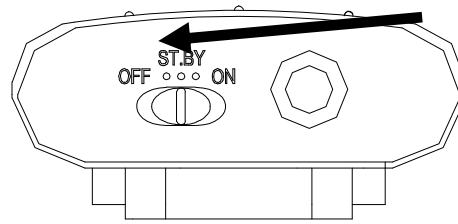

Figure 5.2
- 5.4 When mute is needed, push the Power Switch on the Transmitter to ST.BY position as shown in figure 5.2. To unmute the audio signal, simply push the Power Switch back to ON position.